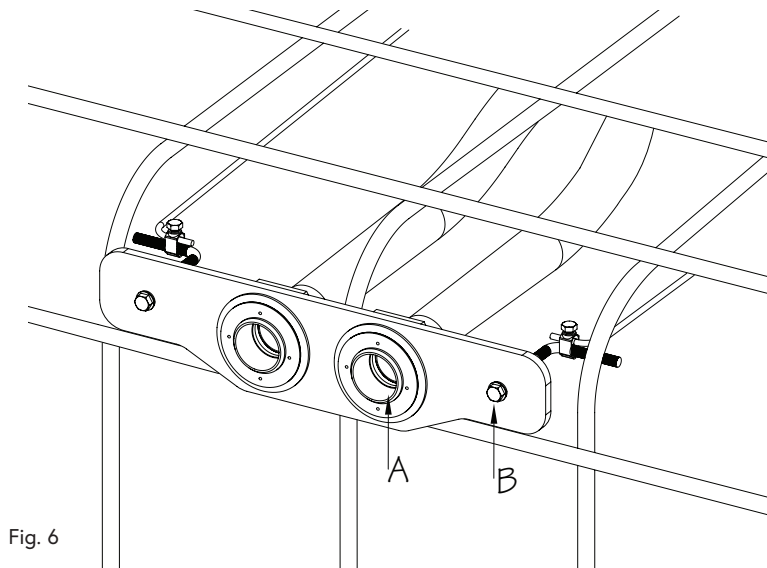

Fig. 6
5. Prior to pouring the concrete, be sure that the openings of the Star Thru-Wall Fittings (A) and Sacrificial Bolts (B) are covered. Concrete cannot be embedded in these areas (Fig. 6).